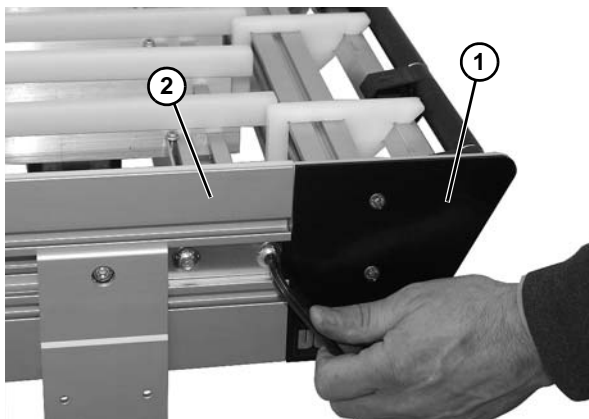

Figure 100
*When reinstalling the idler spindle assembly, the idler tail assembly (**Figure 100, item 1**) should mate flush with the conveyor frame (**Figure 100, item 2**).*